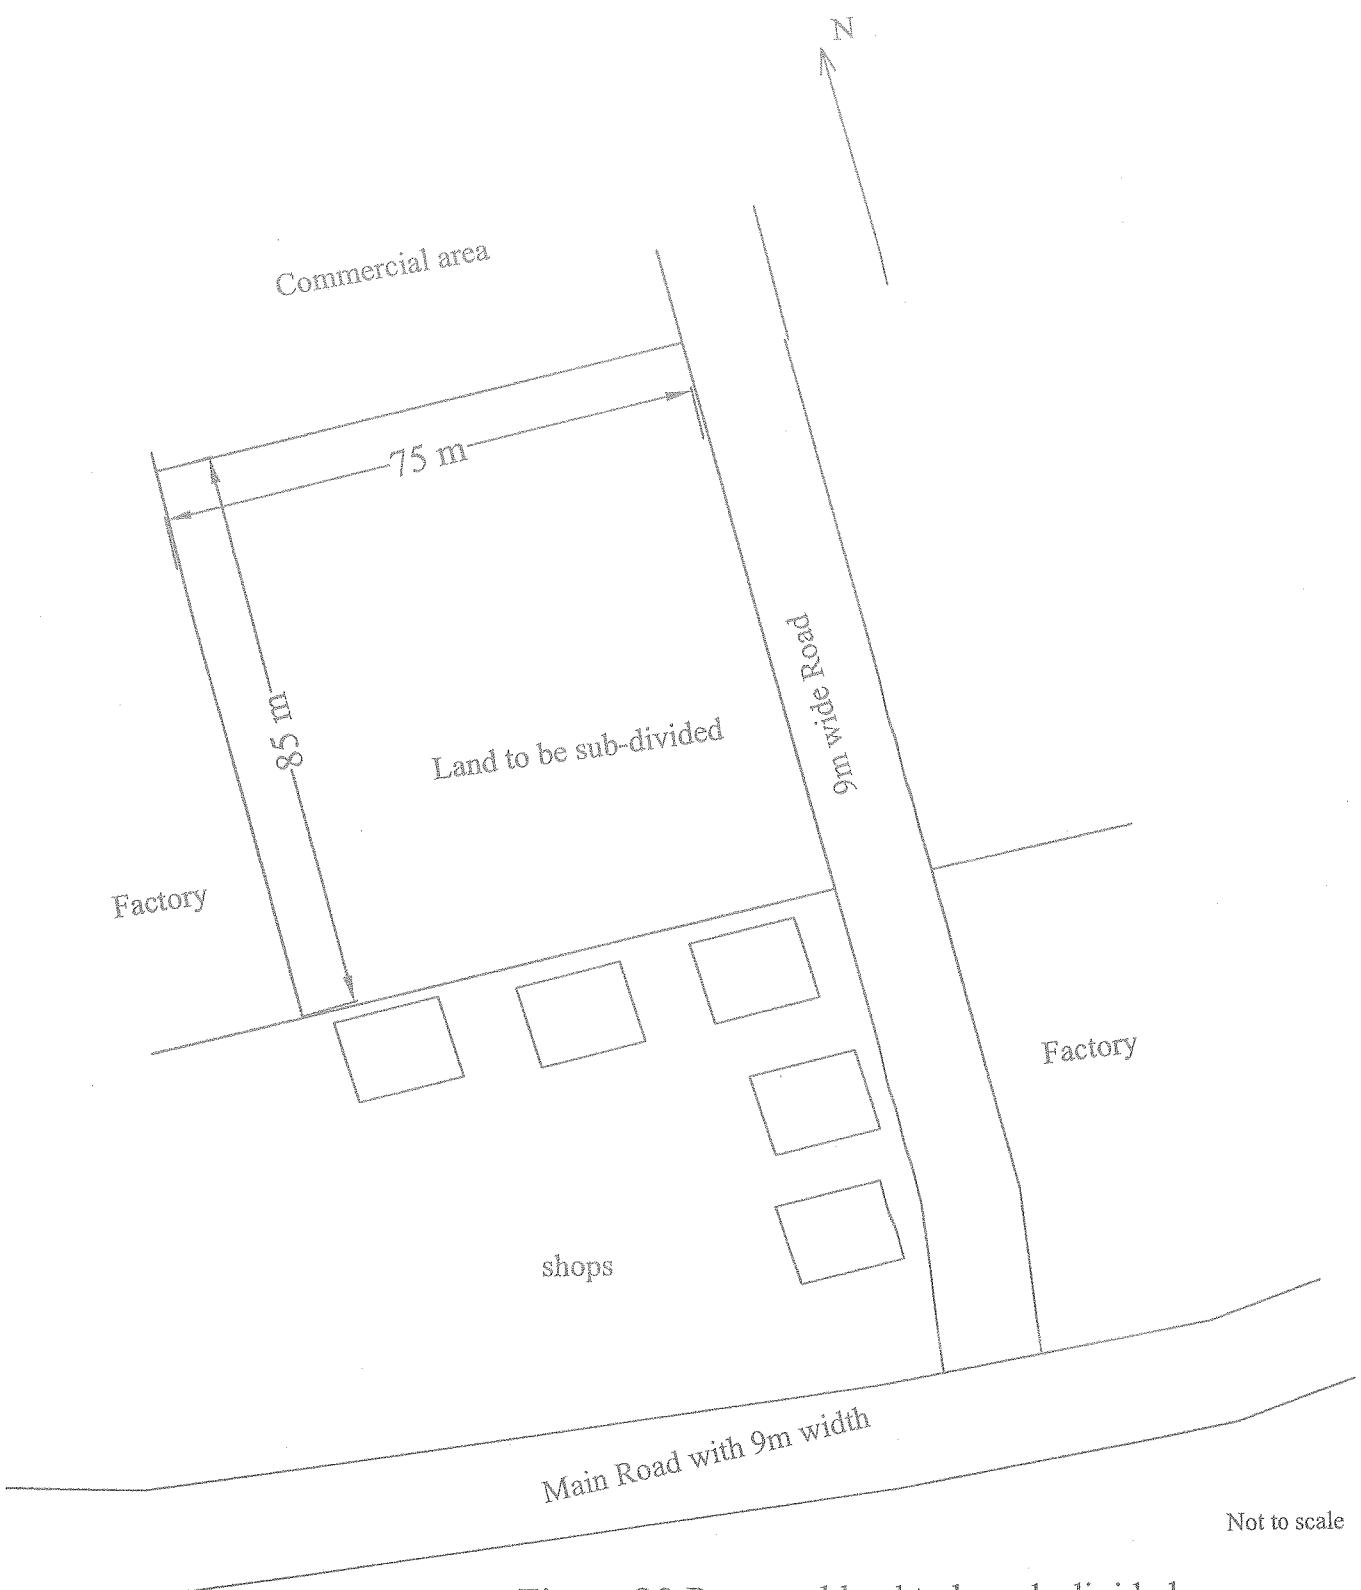

Figure Q2:Proposed land to be sub-divided
- The land for proposed sub-division is shown in Figure Q2.